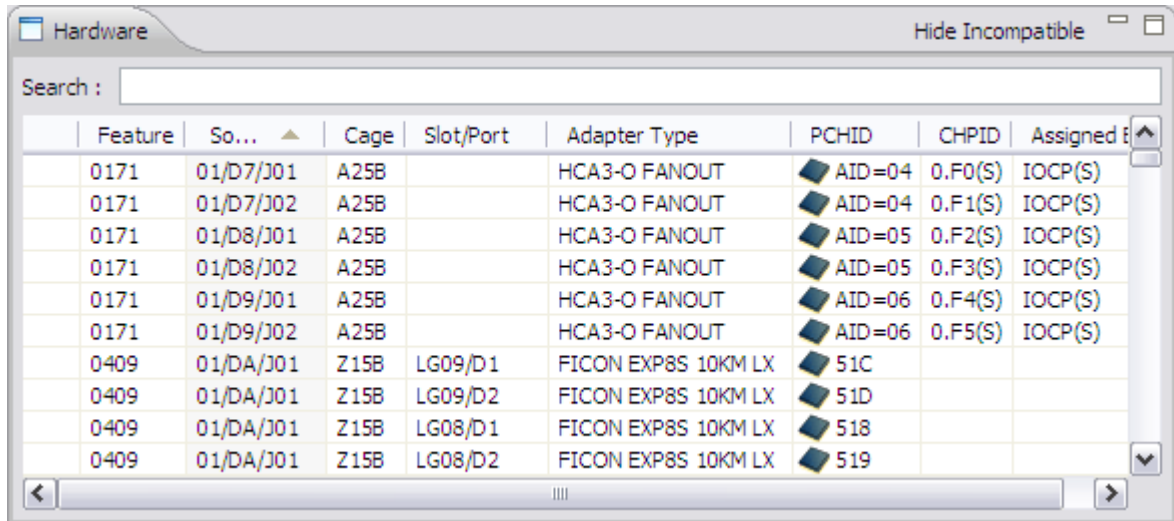

Figure 116. Hardware pane in Manual Mapping view
- Type IFB, HCA, or PCIe in the **Search** field near the top of the pane, (Figure 116 on page 92 shows the search field in the Hardware pane before the search) and click **Enter**.